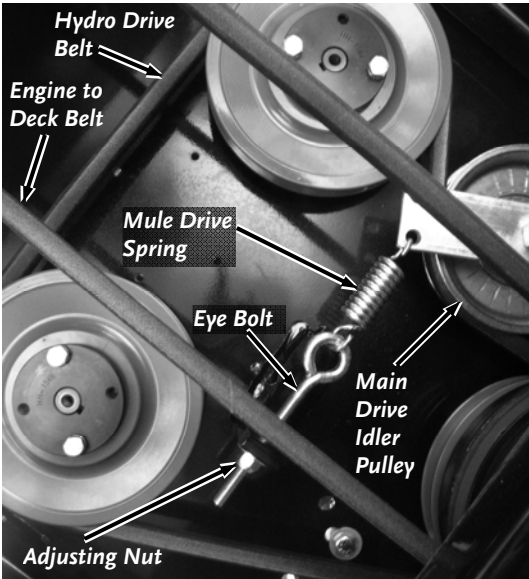

Figure 19
- Remove the Adjusting Nut from the Eye Bolt on the Main Drive Idler Pulley (**Figure 19**).
1. Turning the Adjusting Nut clockwise on the Eye Bolt will tighten the Mule Drive Spring (**Figure 19 on page 20**). Tighten the Adjusting Nut until the Spring has about a 1/32" to 1/16" gap between the coils of the Spring.